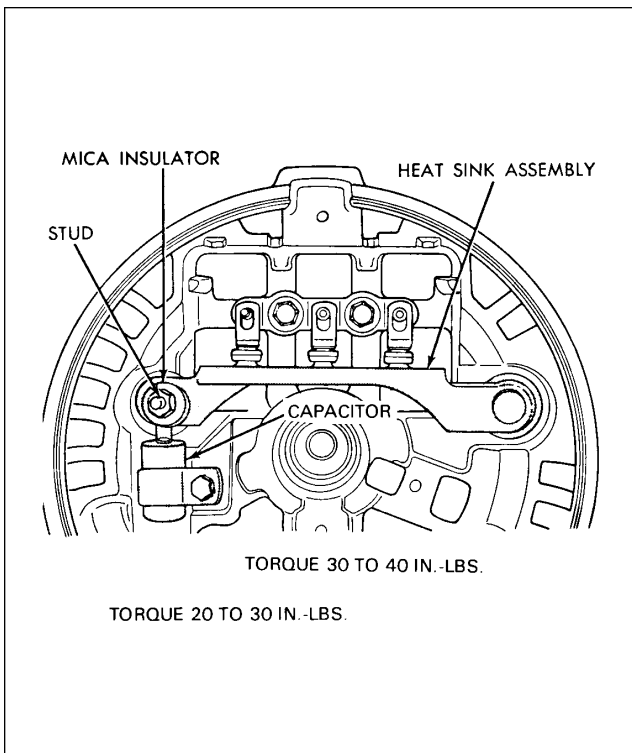

Figure 24-24. Installation of Capacitor
11. Install the positive heatsink nut and lock washer and torque 20 to 30 inch-pounds. (Refer to Figure 24-24.)